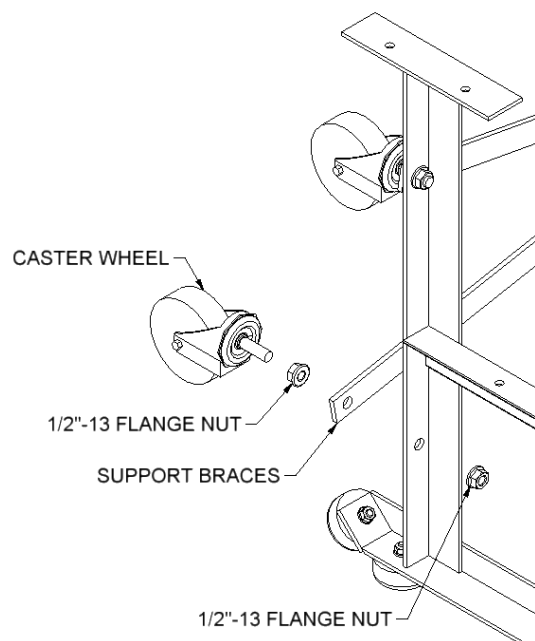

FIGURE: 2
2. Install two wheel casters and support brace on the backside of each frame as shown in figure 2 - fully thread caster stem on, but tighten only finger tight.